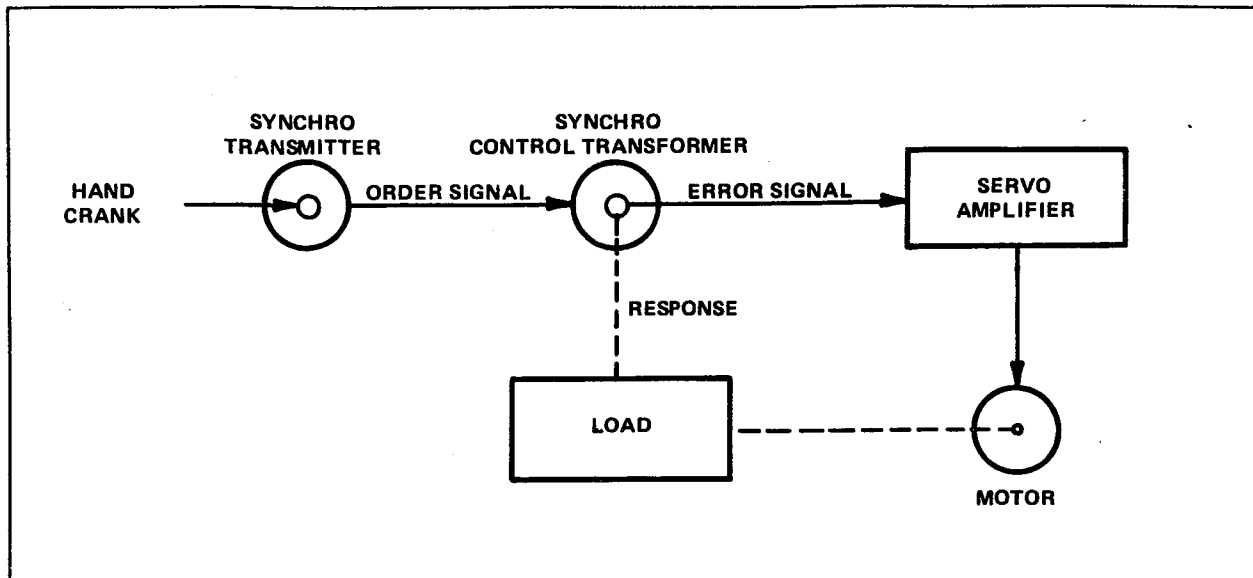

Figure 13. PD Control
Proportional-plus-Derivative (PD) systems are rarely used in process control systems; however, they are useful in position (servo) control applications. In these situations, the system responds to both the magnitude and the rate of change of the signal (in a system that can find a true null). (See Figure 13.)